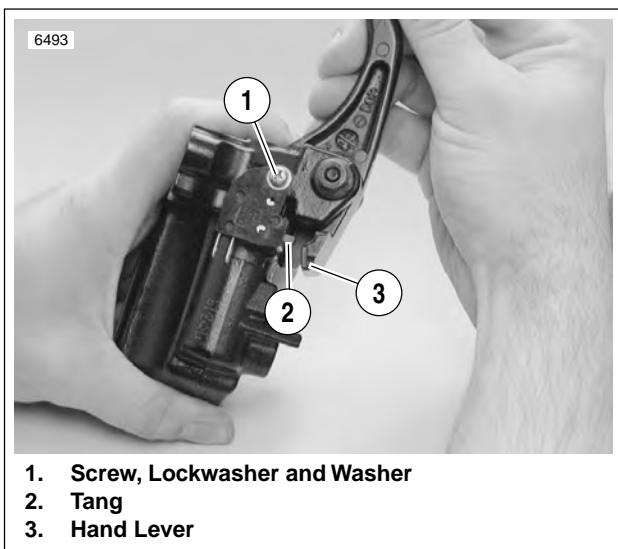

Figure 2-27. Testing Hand Lever
- a. Align hole in lever (3) with hole in master cylinder assembly.
- b. Lubricate pivot bolt (2) with **LOCTITE ANTI-SEIZE**.
- d. Install nut (1) (metric). Tighten to **44-62 in-lbs** (5-7 Nm).
5. See Figure 2-27. Install front brake switch.
- a. Attach front brake switch with screw, washer and lockwasher (1). Tighten to **7-13 in-lbs** (1-2 Nm).
- b. Test switch action. Tang (2) on switch must release when hand lever (3) is moved.